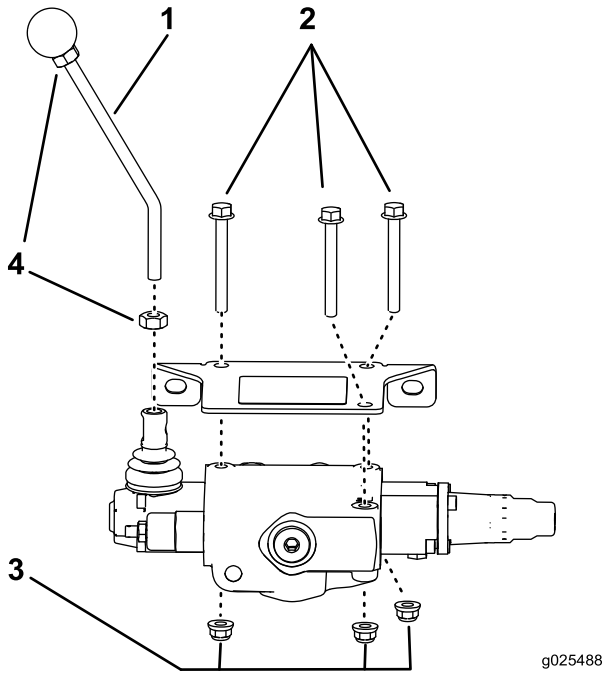

Figure 17
1. Attach the bracket to the valve and attach the handle assembly as shown in Figure 17.